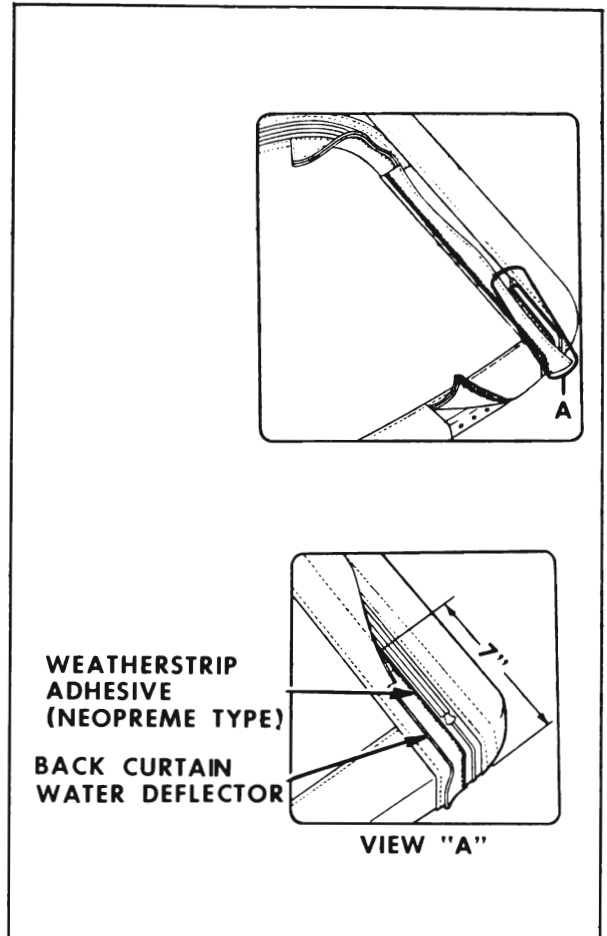

Figure 7-31—Back Curtain Sealing
7. Apply neoprene-type weatherstrip adhesive to stitches which secure back curtain water deflector along outboard edge of deflector (see view "A", Figure 7-31).